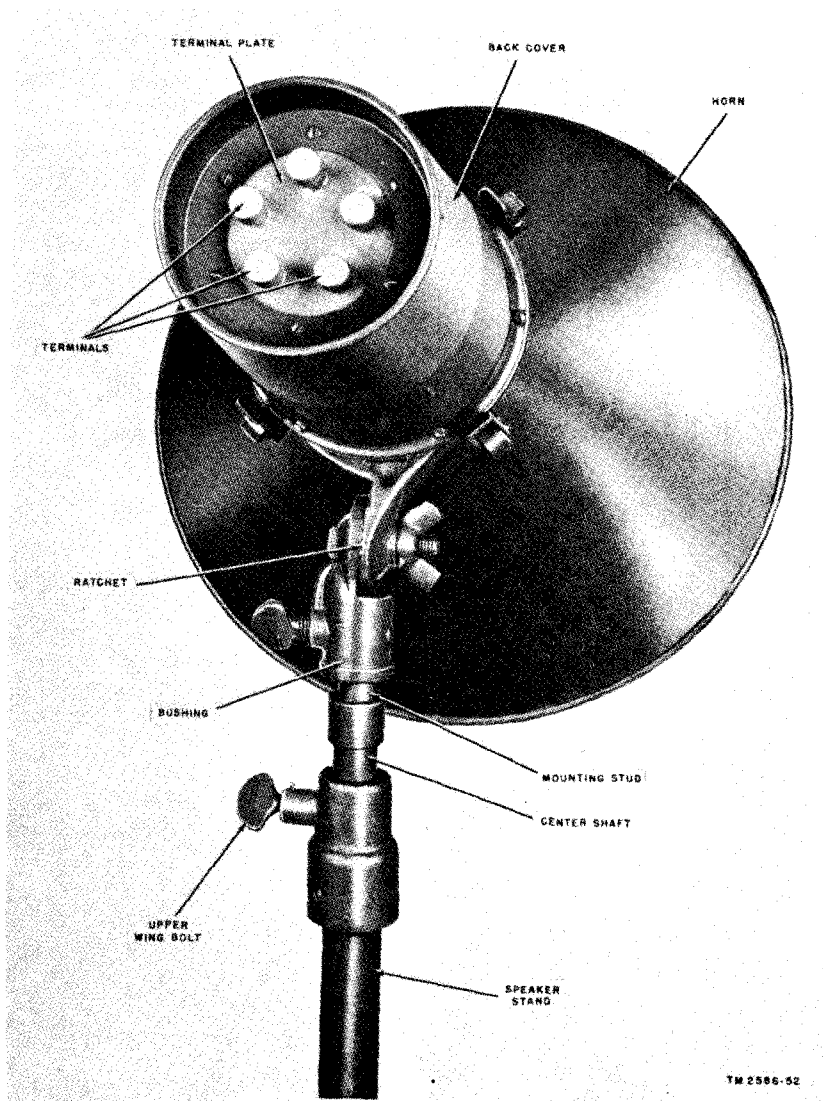

Figure 14. Speaker on stand
(1) Loosen the wing nut on the adjustable ratchet (fig. 14) on the speaker, until the speaker can swivel up and down.
- (1) Loosen the upper wing bolt.
- (2) Extend the center shaft (fig. 14) until the speaker is at the desired height.
- (3) Tighten the upper wing bolt (fig. 14).
(1) Connect one of the two wires to the lower terminal of the two terminals marked SPEAKERS. The terminals are located on the right side of the amplifier control panel. The lower terminal has a ground symbol marked on the terminal mounting base.
(2) Connect the other wire to the upper terminal of the two terminals marked SPEAKERS.
e. Terminate the wire at the speaker (fig. 14) in the following manner:
(1) Connect one of the two wires to the terminal marked 0 (zero) on the terminal strip located on the rear of the mounting unit.
(2) Connect the other wire to the terminal (fig. 14) corresponding with the chart below.